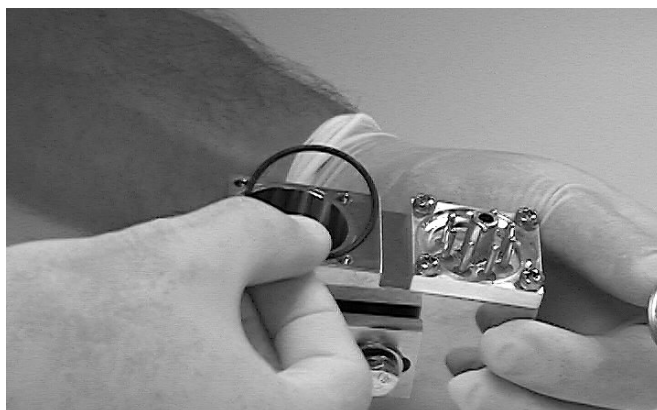

Figure 3-19 Replacing the Ion Source O-ring
4. Place the O-ring on the ion source as shown in Figure 3-19.